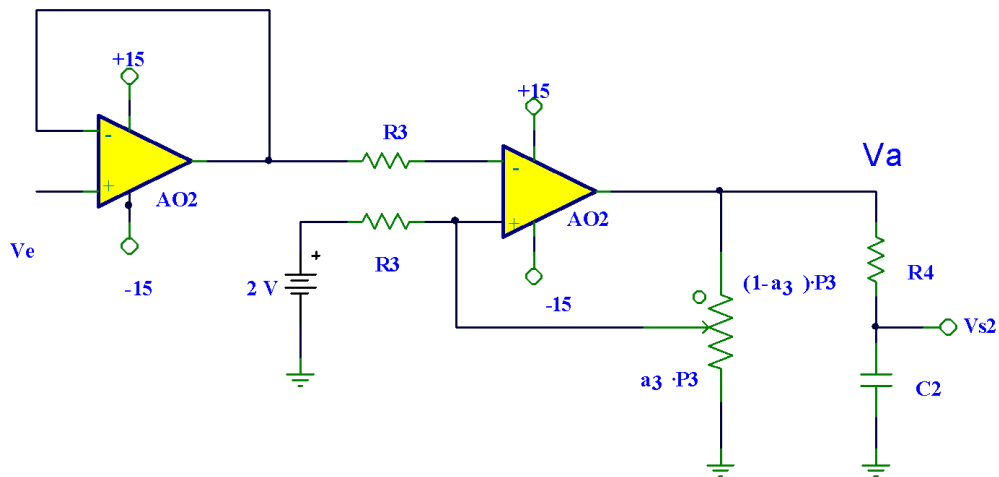

Figure 4. DC regulator
- 0.6 If capacitor C_2 is connected together with resistor R_4 to the output of the comparator (V_a) as indicated in Figure 4, a DC regulator would be obtained. Justify it. How could the DC level of the signal be varied? ($R_4 = 470 \text{ k}\Omega$, $C_2 = 560 \text{ nF}$)
9. Without disconnecting subsystem 1, connect the circuit formed by C2 and R4 to the comparator output as shown in Figure 4. On the oscilloscope, display the signal V_a and the output V_{s2} .